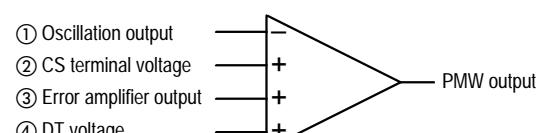
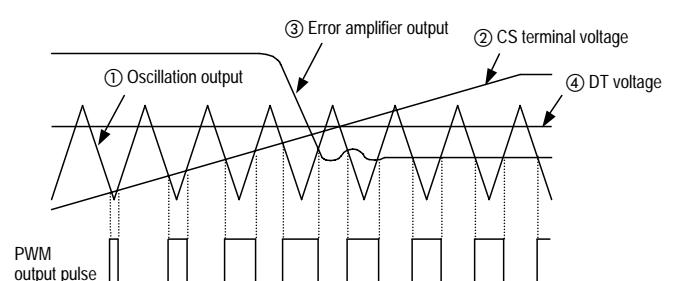

Fig. 4
Fig. 5
The PWM comparator has 4 input terminals. (Fig. 4) The oscillator output ① is compared with the CS terminal voltage ②, and the error amplifier voltage ③, then, the lower voltage between ② and ③ is preferred. While the preferred voltage is lower than the oscillator output, the PWM comparator output is Low. While the preferred voltage is higher than the oscillator output, the PWM comparator output is High (Fig. 5). When the IC starts, the capacitor connected to the CS terminal is charged through the resistor connected to the power supply, and then the output pulses begin to widen gradually as the operation of soft start.
In steady operation, the pulse width is determined based on the voltage of the error amplifier ③, and then the output voltage is stabilized. The Dead Time control voltage (④ DT voltage) of FA7700 and FA7701 has different characteristics to adjust the ICs to various types of power supply circuits being controlled and also to reduce external discrete components as many as possible. FA7700 is developed for fly-back circuits, and boost circuits, and the DT voltage is set in the IC so that the maximum output duty cycle is fixed to 80% min.. (Maximum output duty cycle changes according to operation frequencies. —See page 6 "Maximum output duty vs. temperature".) It prevents magnetic saturation of the transformer or the like when a short-circuit in the output circuit occurs. FA7701 is developed for buck circuits, and it is designed for the maximum output duty cycle of 100%. The timing chart of PWM comparator is described in Fig. 5.